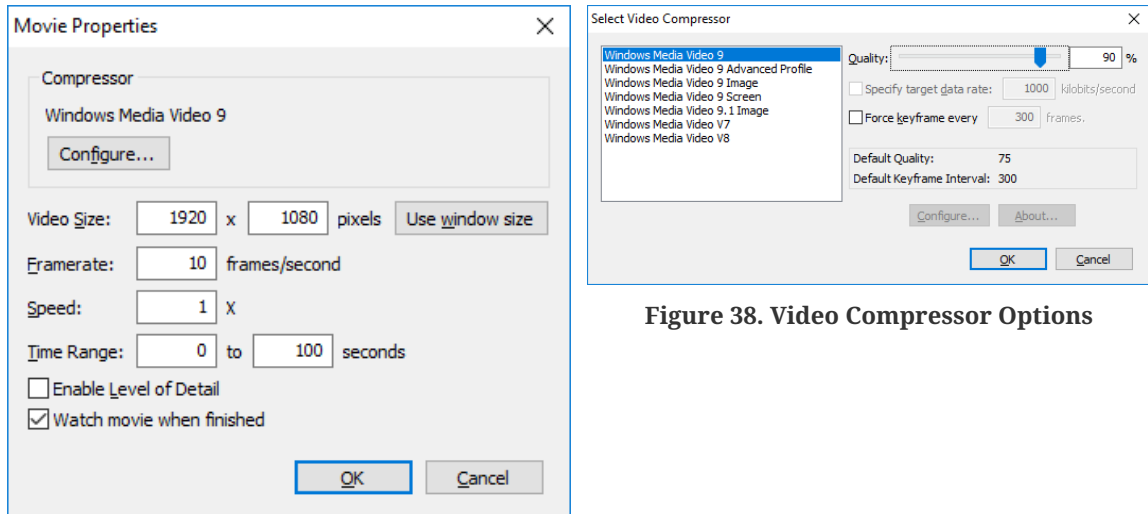

Figure 37. Movie Properties
5. A dialog will show some movie making options as in Figure 37.